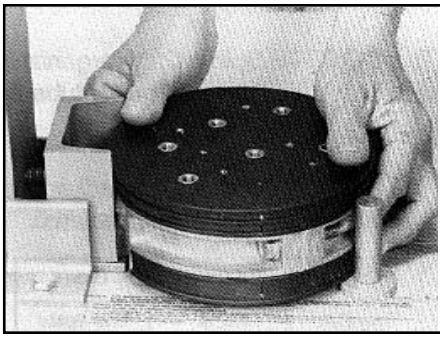

FIGURE 7 - END PLATE SHOWING THE DESIGNATED DRILL MARKS
5.01 Locate the designated drill marks on the End Plate (highlighted in yellow). These marks should face up when placing End Plate in the Power End Plate Cutter. (Figure 7)